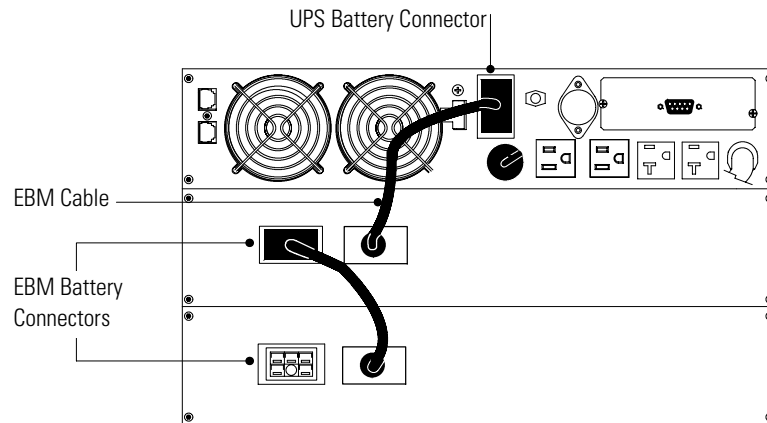

Figure 7. Typical EBM Installation (120V UPS Model Shown)
2. Plug the EBM cable into the UPS battery connector (see Figure 7).